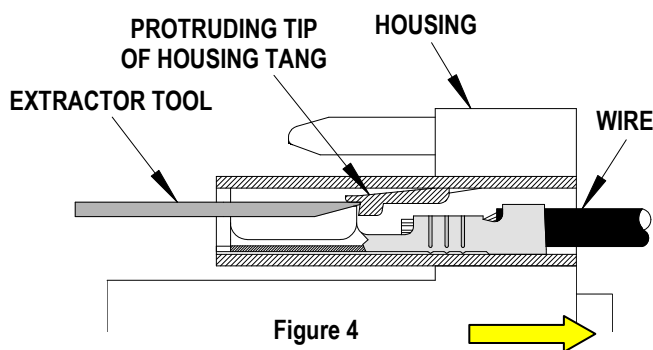

Figure 4
4. Pull the crimped wire and terminal back through the connector slot in the arrow direction as shown in Figure 4.